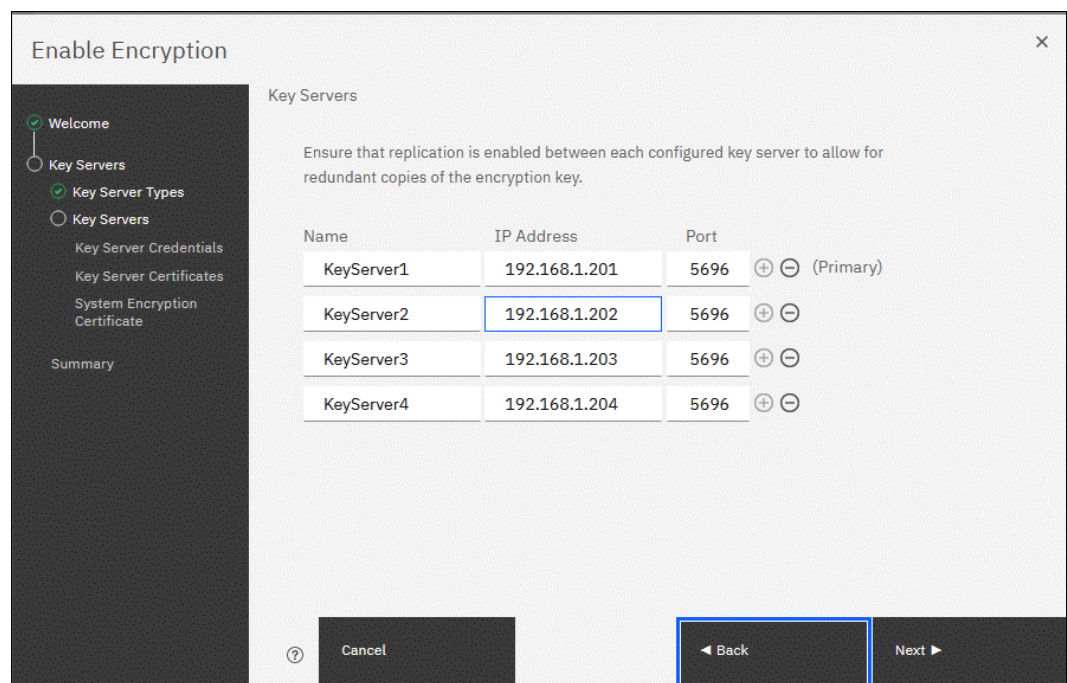

Figure 12-39 Configuring multiple SafeNet KeySecure servers
4. Add up to four SafeNet KeySecure servers in the next wizard window, as shown in Figure 12-39. For each key server, enter the name, IP address, and TCP port for KMIP protocol (default value is 5696). Because the server name is only a label, it does not need to be the real host name of the server.